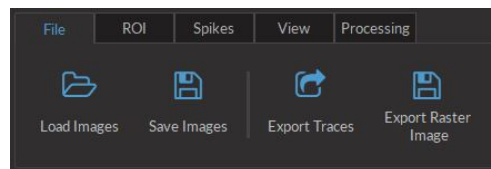

Figure 3.28: File Tab
1. The **File tab** (Fig. 3.28) is used to save/load data.